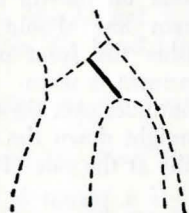

FIG. 2.—Correct armseye line.
4. **Armseye.**—The location of the armseye and the fitting of the sleeve into the armseye are two important steps in the fitting of a garment. The armseye seam when viewed from the side should show a good curve over the top of the shoulder. When viewed from the front, the armseye should lie parallel to the center front, and when viewed from the neck it should be parallel to the center back of the garment (Fig. 2).